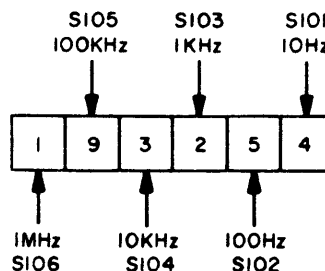

Figure 4-2. Frequency Selector Switch Readouts
c. FREQUENCY SELECT SWITCHING (See figure 7-1.) Frequency select switching in the LFE is accomplished by six rotary switches S101 through S106, with direct-reading dials, corresponding to frequencies of 10 Hz, 100 Hz, 1 kHz, 10 kHz, 100 kHz and 1 MHz, respectively. (See figure 4-2.) The five discrete frequencies, generated on each of the comb filter boards, Z102 and Z103, are applied through 100-ohm series isolation resistors on respective terminal boards TB101 and TB102, prior to being sent to the selector switch networks. (See figure 7-1.)